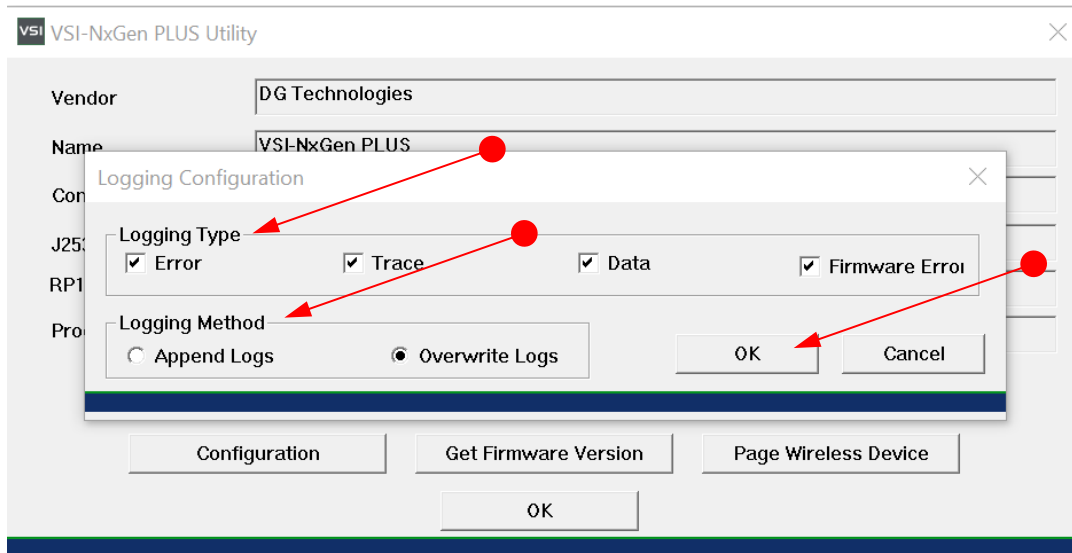

Figure 53 - VSI NxGen PLUS Select Logging Type and Method Configuration
- **[Logging Type] (Error, Trace, Data, Firmware Error):** Keep all active as shown in the Figure 53 unless you need to reduce the log file size.